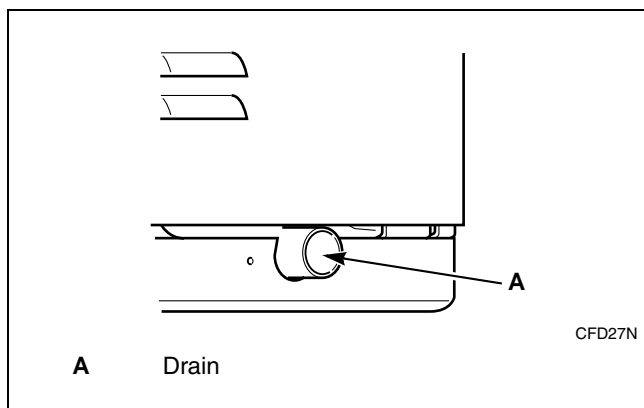

Figure 9
The water still being in the drain needs to be drained using drain (A) before cleaning the drain pipe or replacing the exhaust valve. Refer to *Figure 9*.